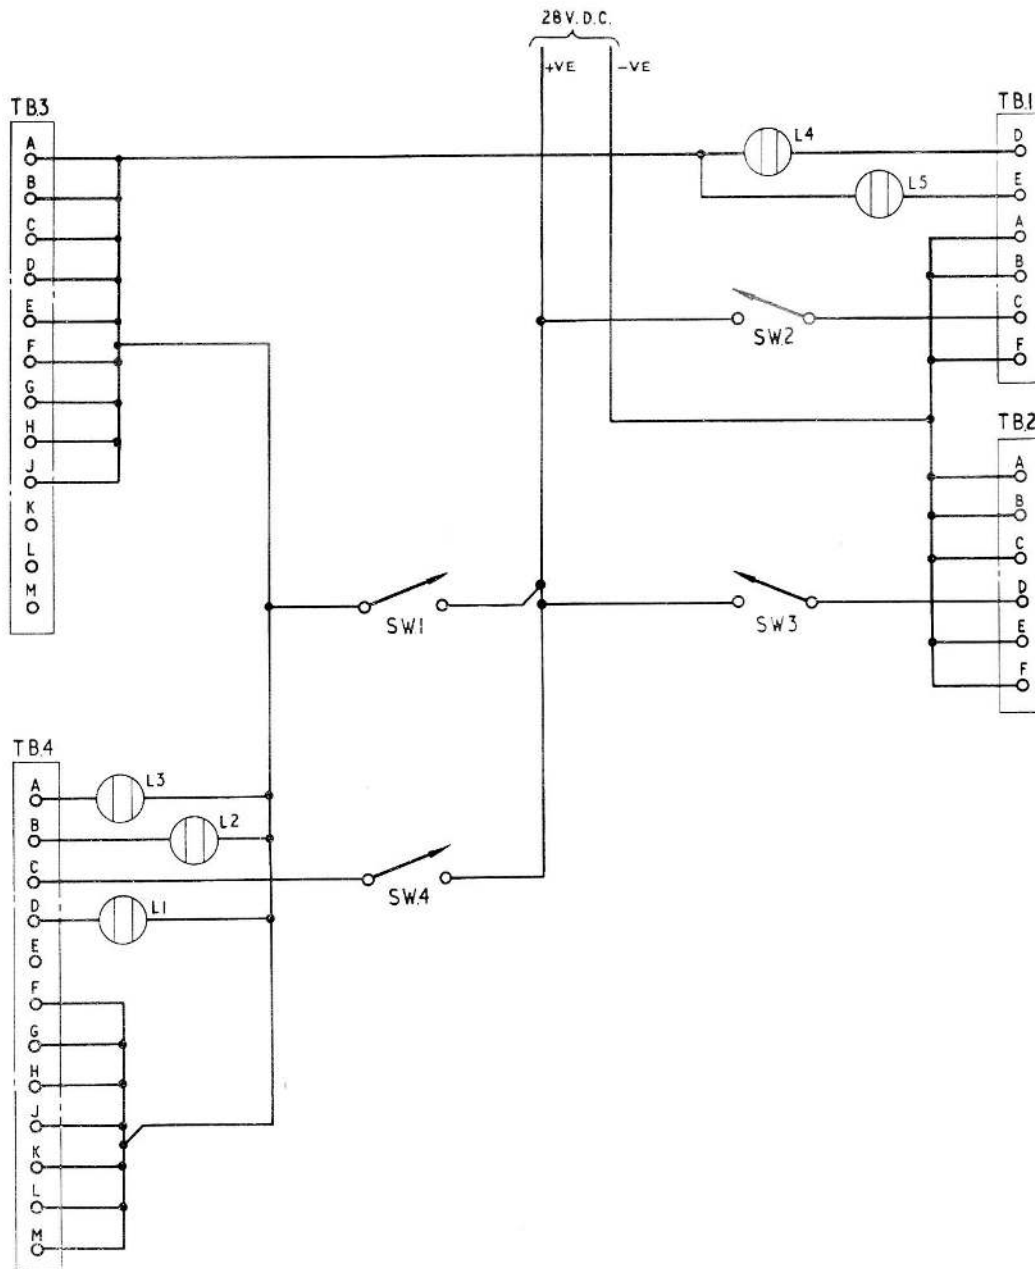

Fig. 1. Test Circuit Unit for Indicator Unit Type C6600
3. Connect the indicator to the test circuit as shown in fig. 1. Ensure that the mute switch M is in the normal position, i.e. unit not muted, and carry out the operations detailed in Table 1.